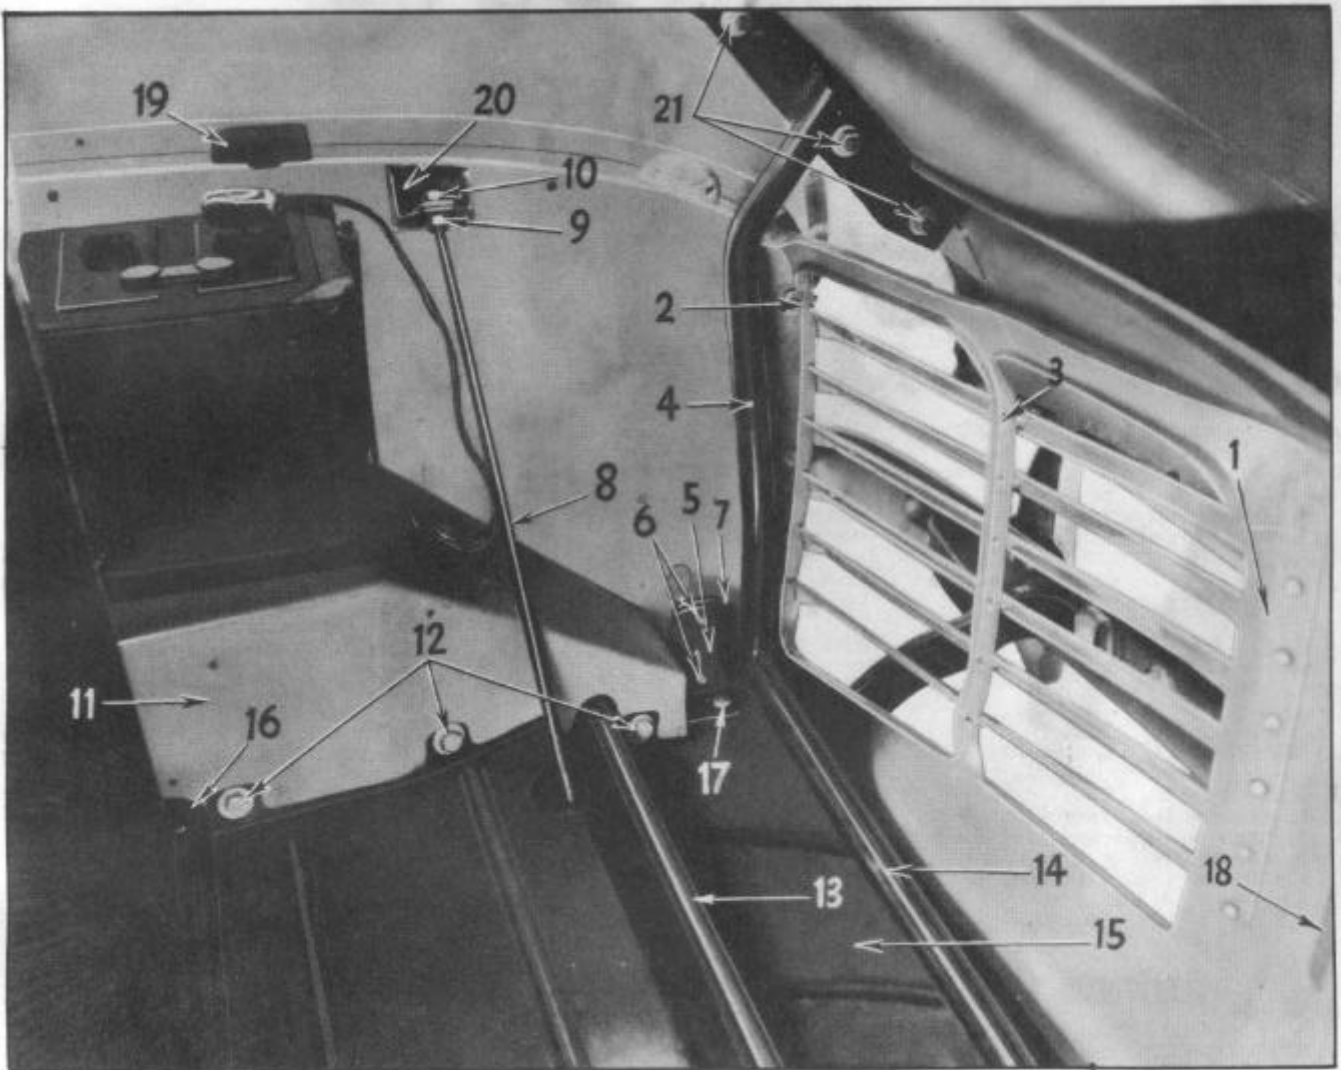

Figure 1--Bonnet and Front End Sheet Metal
The centering of the bonnet between the fenders and at the cowl is taken care of by adjustments as shown in Figure 1.
4. Remove bonnet to bonnet hinge bolts (21), Figure 1.
2. Remove bolts (6), Figure 1, holding adjusting bracket (7) to frame bracket (5).
1. Remove bolts (2), Figure 1, and washers from underneath the fender.
1. Remove radiator louvre panel assembly (1), Figure 1.
2. Remove fender brace rods (8).
4. Remove screws holding radiator lower tank shield to fender (12).
6. Remove fender brace rod top nut (10), Figure 1.
7. Remove louvre panel to fender bolts (2).